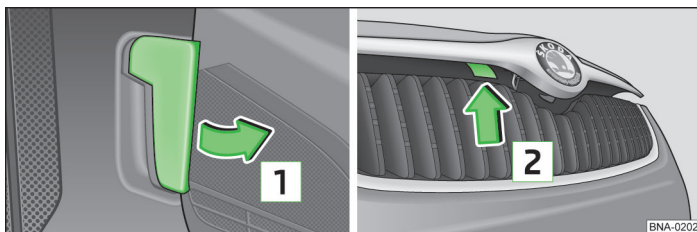

Fig. 56 Release lever in the footwell on the driver's side / Release lever on the bonnet
- Open the driver's door and pull the release lever in the direction of the arrow 1  fig. 56. The bonnet will jump from the locking of the lock carrier by spring force .